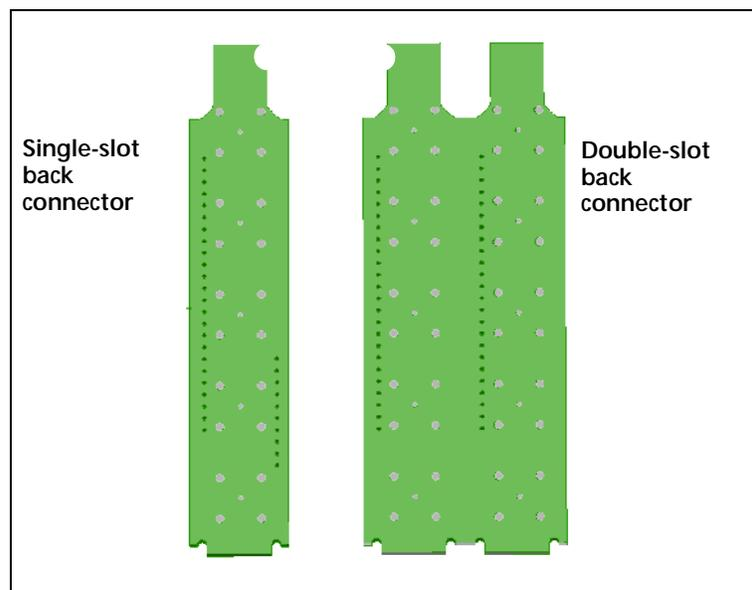

Figure 2-7 Blank Back Connectors
- 2 Remove a blank back connector from the frame. See Figure 2-7.